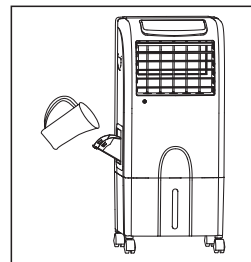

fig.2
4. Pull upwards the water tank and pull outwards about 10cm to the locking pin, then add water. (shown as fig.2)